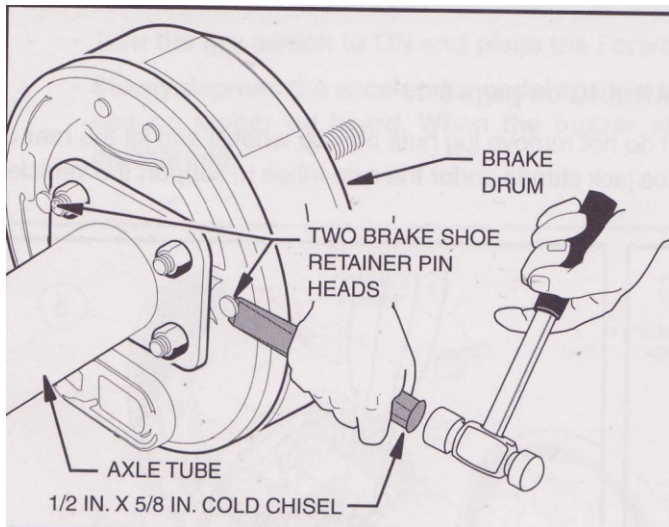

Figure 6-4
- 5.2 Insert a ½ inch x 5/8 inch cold chisel under the head of each pin and shear them off as illustrated (Figure 6-4). This will release the shoes from the backing plate, allowing them to pivot away from the inside of the brake drum, which should then allow the brake drum to be pulled free. After completing Step 6, skip step 7.